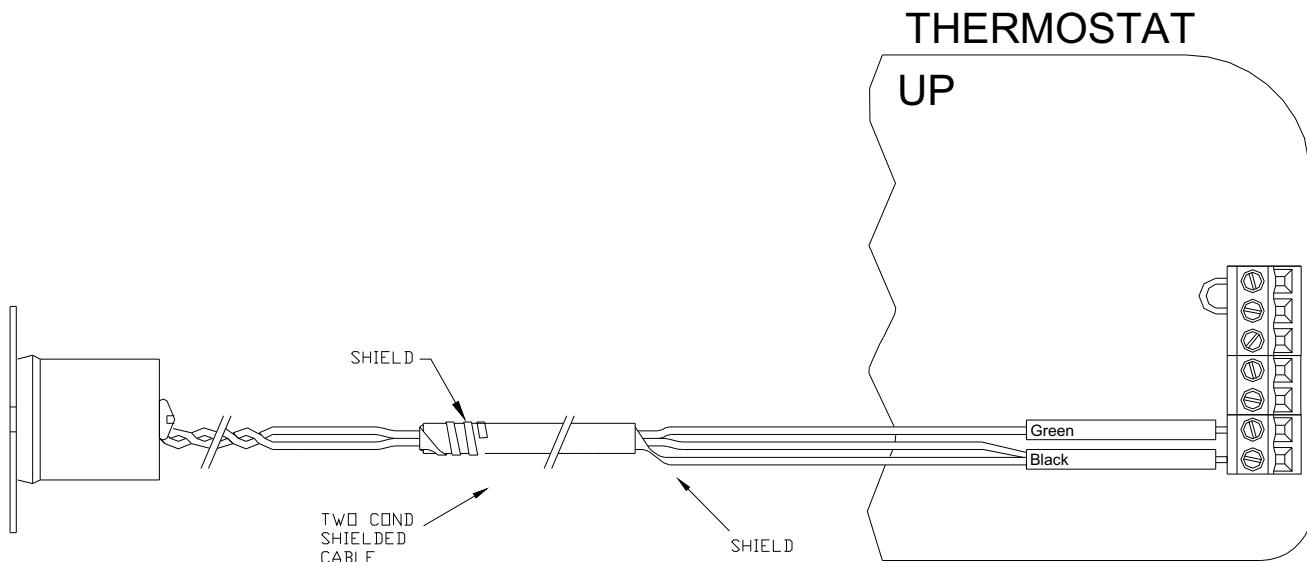

Figure 10 – Connections to a Remote Temperature Sensor
Make the connections to the Green and Black terminals under the section marked “Remote Temp Sensor” on the right terminal strip - **See Figure 10.**
1. When connecting a remote temperature sensor, the shield and one of the wires from the remote temperature sensor are tied together and get connected to the Black terminal – See Figure 10.